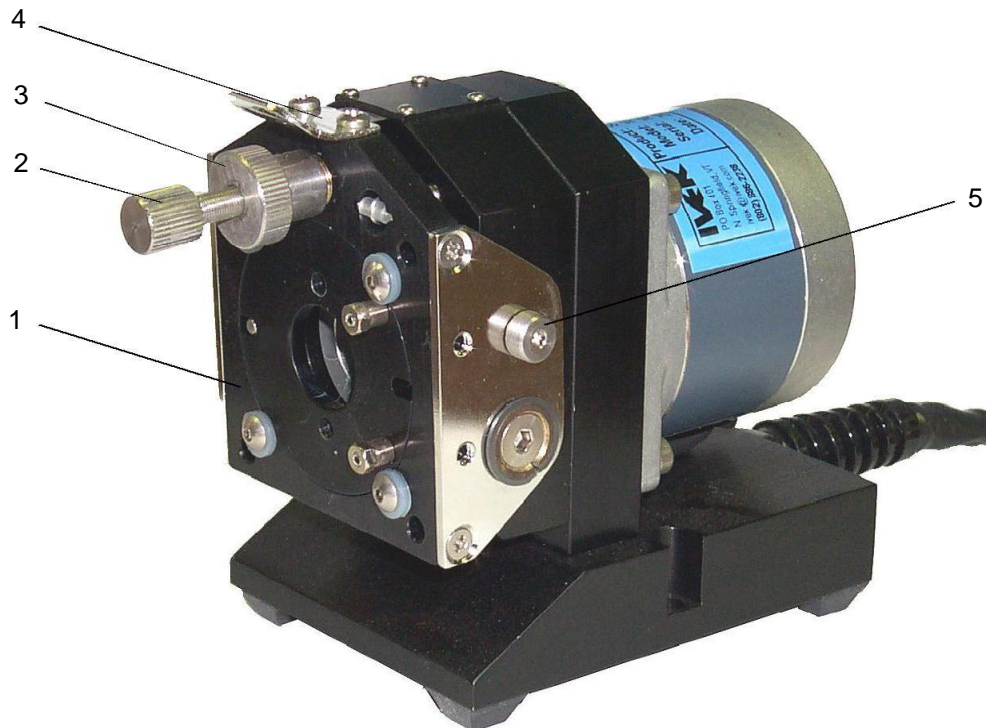

Figure 5.2 Single End Microspense AP Motor/Base Module Adjustment
5.2.2 Displacement Adjustment (Figure 5.2)
If this option is used, verify the fixed displacement washers are not under the head of the two shoulder screws (Figure 5.2 Item 5) but, have been removed to allow the Pump Module displacement adjustment mechanism to pivot freely between the two positions.
5.2.4 Fixed Displacement (Figure 5.2)